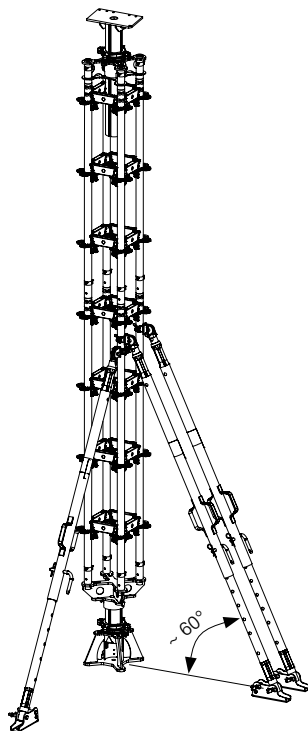

Fig. A3.01
1. Connect the half-coupler of the Brace Connector HDR-2 (9) to the Standard UVR. (Fig. A3.01)
5. Release the prop from the crane. (Fig. A3.01)